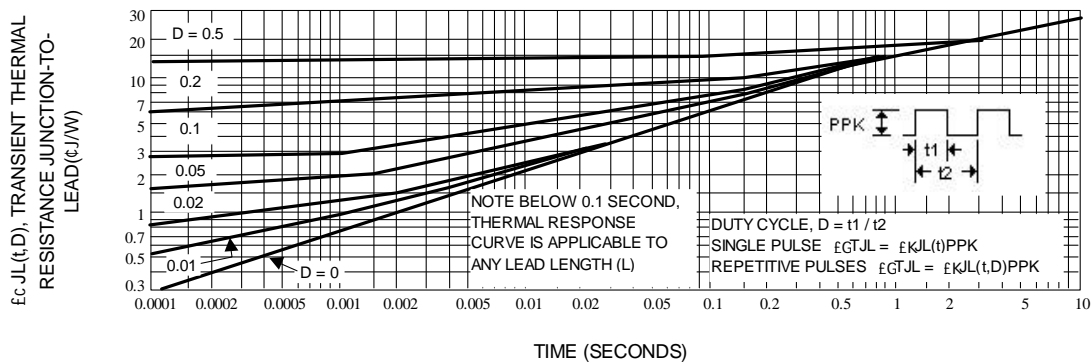
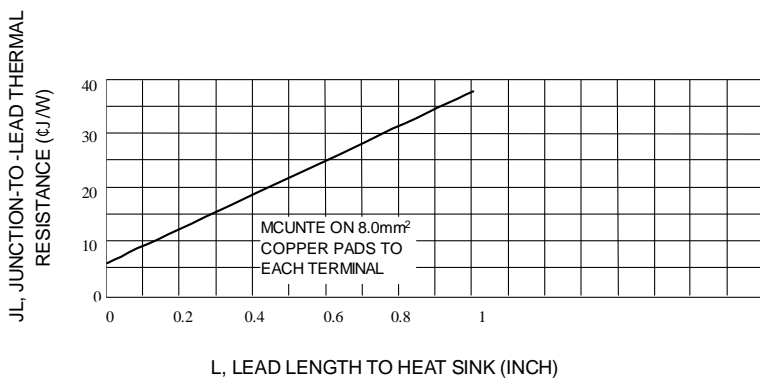
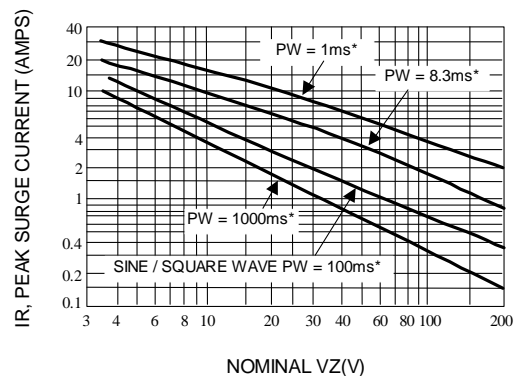
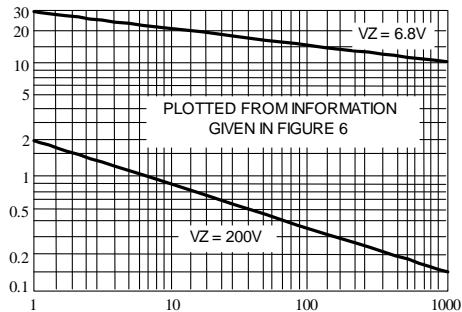

Fig. 3-TYPICAL THERMAL RESPONSE
Fig. 4-TYPICAL THERMAL RESISTANCE
Fig. 5-MAXIMUM NON-REPETITIVE SURGE CURRENT VERSUS NOMINAL ZENER VOLTAGE (SEE NOTE 3)
Fig. 6-PEAK SURGE CURRENT VERSUS PULSE WIDTH(SEE NOTE 3)
3. SURGE CURRENT (I_r) - Surge current is specified as the maximum allowable peak, non-recurrent square-wave current with a pulse width, PW, of 8.3 ms. The data given in Figure 5 may be used to find the maximum surge current for a square wave of any pulse width between 1 ms and 1000ms by plotting the applicable points on logarithmic paper. Examples of this, using the 6.8v and 200V zeners, are shown in Figure 6. Mounting contact located as specified in Note 3. ($T_A=25^\circ\text{C}$).
θ_{JT_L} is the increase in junction temperature above the lead temperature and may be found from Figure 3 for a train of power pulses or from Figure 4 for dc power.
Data of Figure 3 should not be used to compute surge capability. Surge limitations are given in Figure 5. They are lower than would be expected by considering only junction temperature, as current crowding effects cause temperatures to be extremely high in small spots resulting in device degradation should the limits of Figure. 5 be exceeded.
*** Data of Figure 3 should not be used to compute surge capability. Surge limitations are given in Figure 5. They are lower than would be expected by considering only junction temperature, as current crowding effects cause temperatures to be extremely high in small spots resulting in device degradation should the limits of Figure. 5 be exceeded